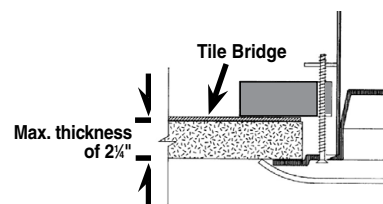

FIG. 2
- Figure 2 Enclosure installation from below ceiling using tile bridge above. This room-side installation into suspended tile utilizes rotating clamps to sandwich tile between bridge and enclosure. Max. ceiling thickness is 2 $\frac{3}{8}$ ".
Area of detail for Figures 2, 3 & 4